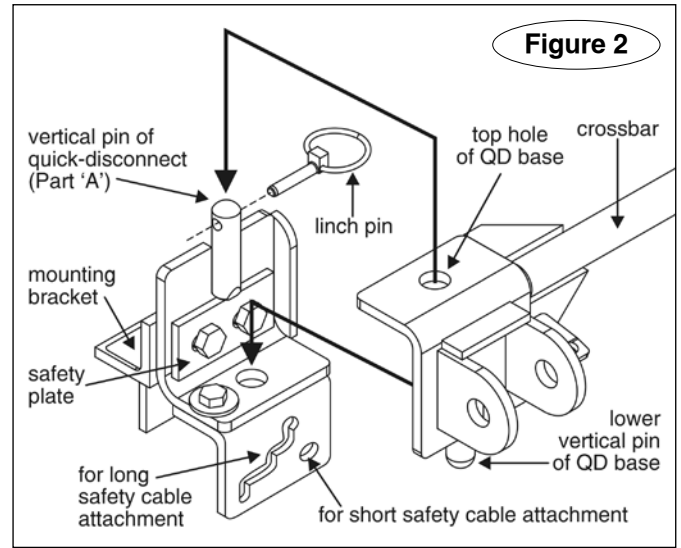

Figure 2
2. Now, test-fit the crossbar – lower the crossbar (Figure 2) over the quick-disconnects. The vertical pins at the top of both QDs should fit through the top holes at the ends of the crossbar (Figure 2), and the vertical pins at the bottom of both QDs should fit through the bottom holes at the ends of the crossbar (Figure 2).
cal pins at the bottom of the crossbar should fit through the lower holes on the quick-disconnects (Figure 2).